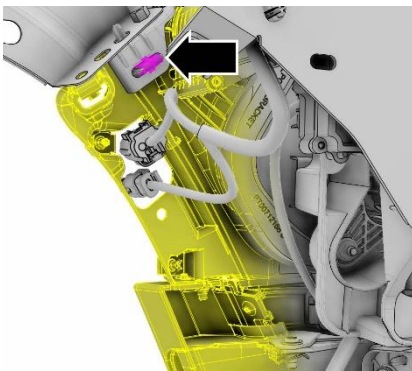

**Figure 16**
2. Disconnect the highlighted washer fluid tube from the reservoir. (Figure 16)